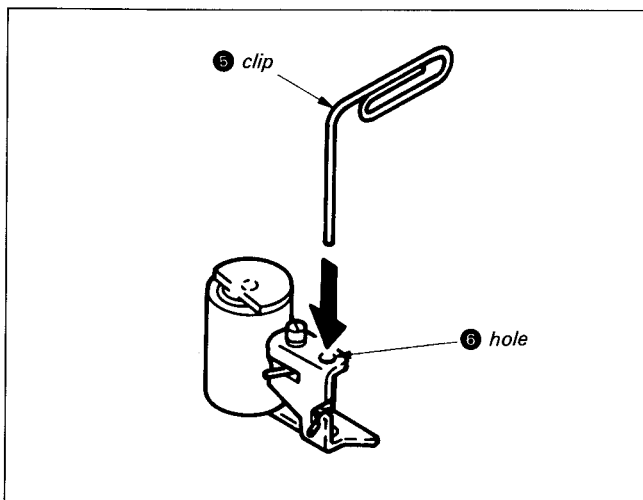

Fig. 7-20.
- 2) Insert the end of a paper clip ⑤ or other thin rod inside the pinch roller arm assembly hole ⑥. (See Fig. 7-20, 7-21.)